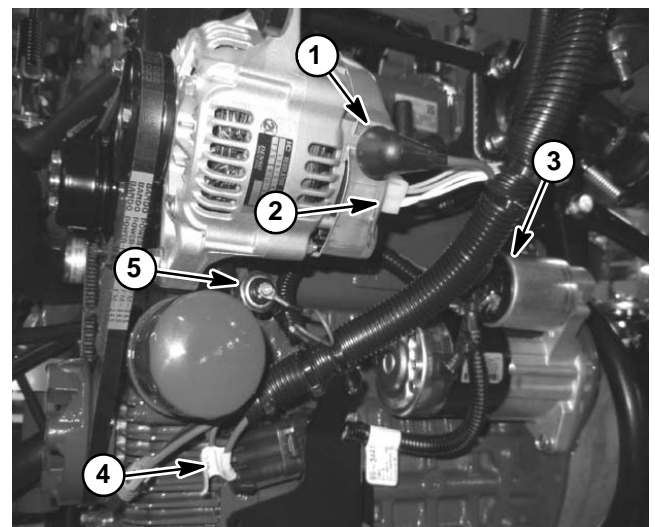

Figure 14
- E. Alternator connector and stud (Fig. 14).
- G. Oil pressure switch (near oil filter) (Fig. 14).